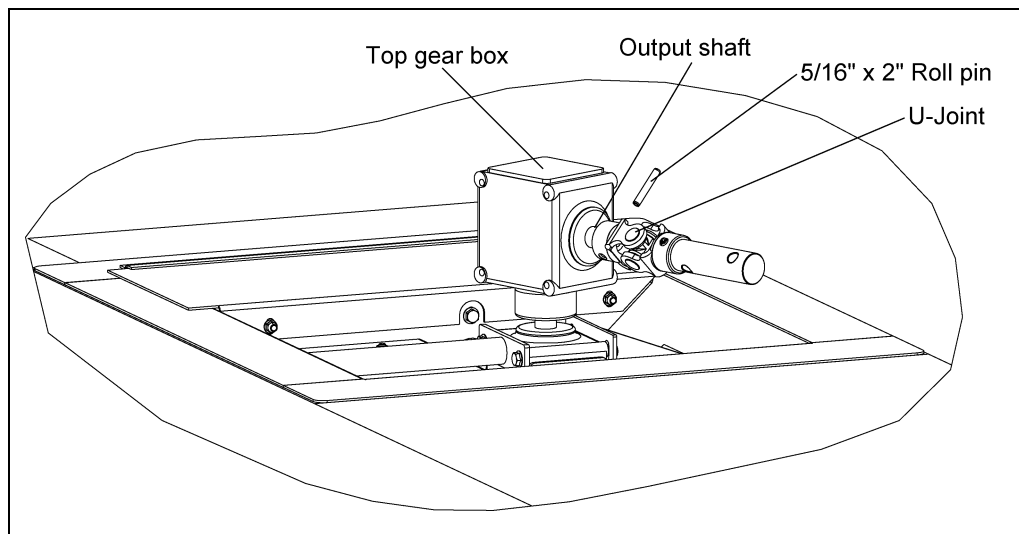

Figure 4Z
- b. Secure the U-joint using a 5/16" x 2" roll pin. (See Figure 4Z.)